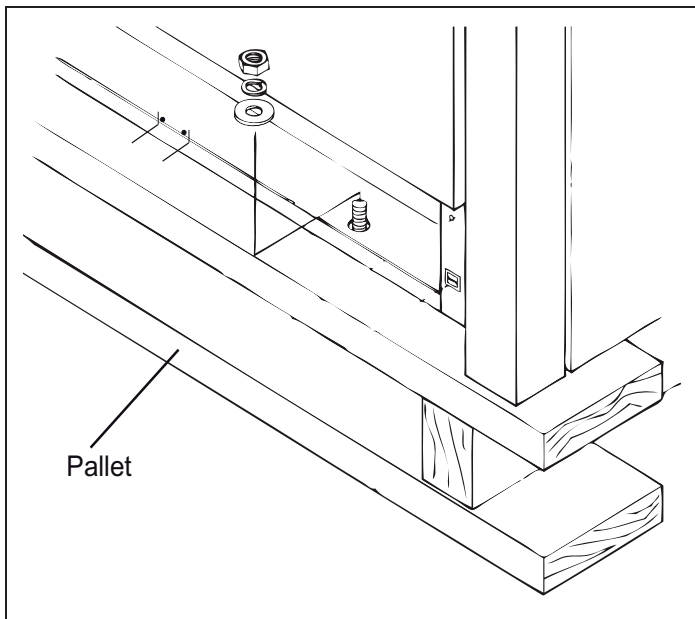

Figure 5: Removal of the Four (4) Shipping Bolts
- Remove the outer carton and packing material from the shipping pallet. The all gas ranges are held to the pallet by four (4) bolts (see Figure 5). The two front pallet bolts are accessible only after removing the Kick Panel. Remove the two screws below the lower corners of the oven cavity and lift the Kick Panel away from the two projections on the range's cast base that capture the bottom edge of the Panel. After removing the bolts, the range must be lifted and removed from the pallet.